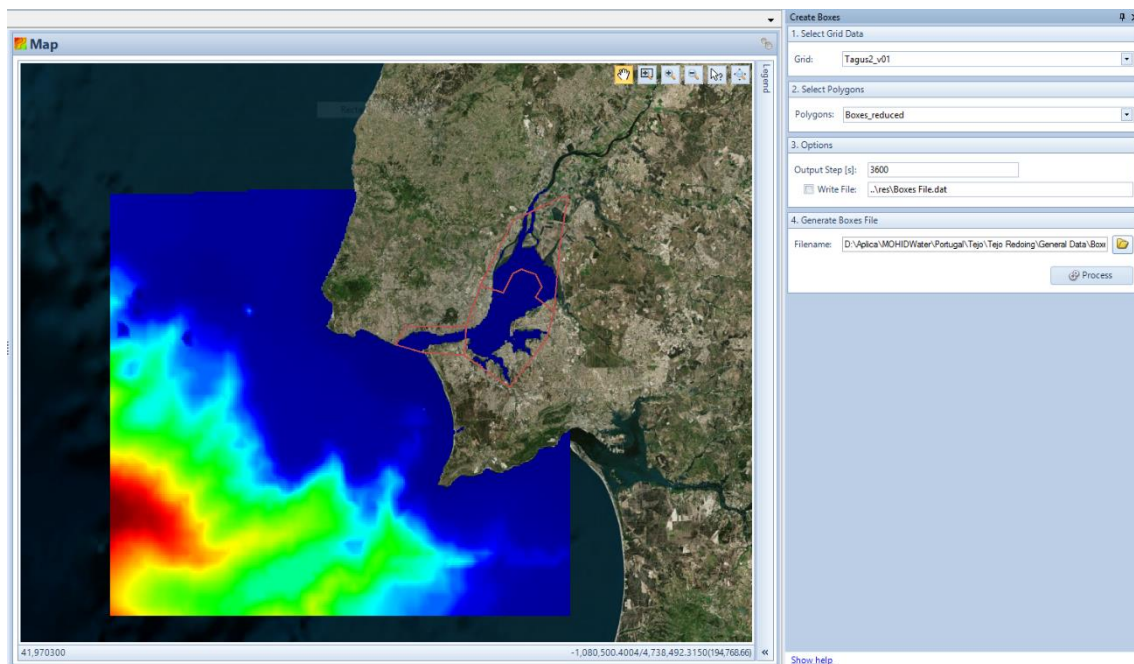

Figure 2.27: MOHID Studio Create Boxes
- Open the tool to generate boxes from polygon in “Tools” ribbon and in “Grid Data Tools” group press “Create Boxes” and the “Create Boxes” window appears (Figure 2.27).